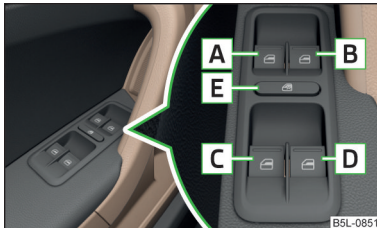

Fig. 43
**Power window buttons** » Fig. 43
➤ Press the button **E** » Fig. 43.
After the driver's or passenger's door is opened, it is only possible to operate the window using button **A** » Fig. 43, in which case it has to be pressed or pulled for approx. 2 seconds.
- Switch off the ignition, open the driver's door and hold the key  until it stops in the open position » Fig. 43 on page 59.
- Switch off the ignition, open the driver's door and hold the key  until it stops in the closed position » Fig. 43 on page 59.